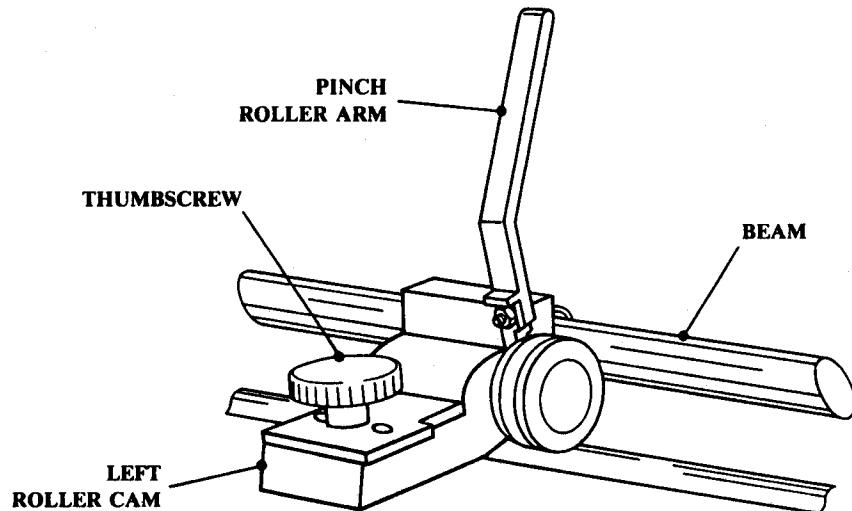

FIGURE 0-2. LEFT PINCH ROLLER ASSEMBLY AND THUMBSCREW
- Raise the left pinch roller arm. See Figure 0-2.